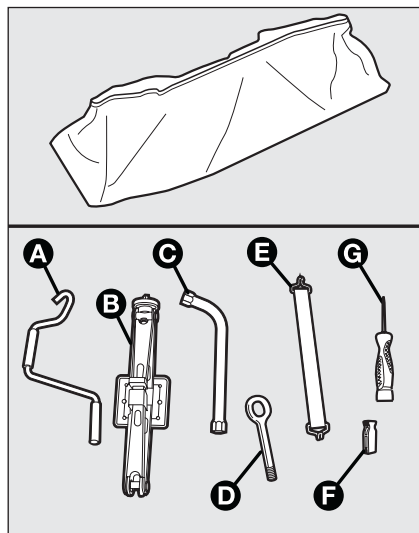
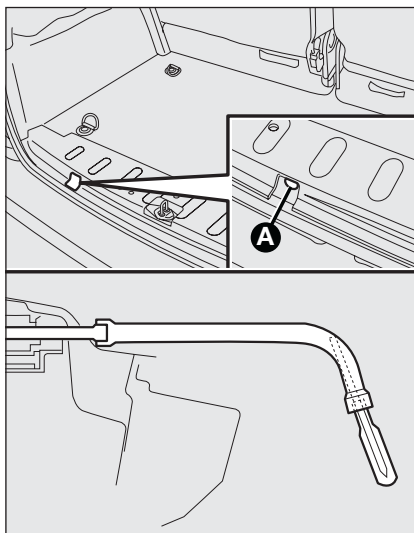
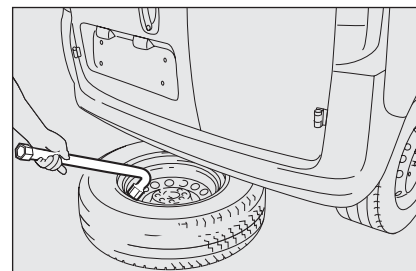

fig. 4
fig. 5
fig. 6
□ the box contains the following tools **fig. 4**:
□ Take the wrench **C-fig. 4** and turn the locknut of the spare wheel support **A-fig. 5** from the inside of the loading compartment so as to release the wheel. To reduce the effort made, place the screw driver **G-fig. 4** in the seat inside the wrench **C**.
□ Then, use the wrench **C-fig. 4** to pull the wheel out of the vehicle, **fig. 6**.
- ☐ Loosen the fastening bolts of the wheel to be replaced by about one turn using the wrench provided **C**-fig. 4.
- ☐ Lift again the wheel tightening again the lock bolt **A-fig. 5**.